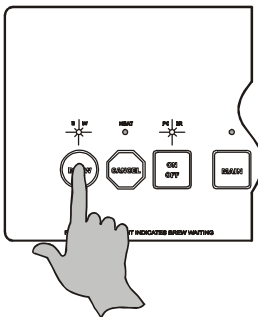

Fig. 8 Initiate a Brew
4. Remove the spray disk from the brew head (See figure 8): Press up on the spray disk ears, then turn the disk to the left to unlatch. Remove the gasket from inside the brew head.